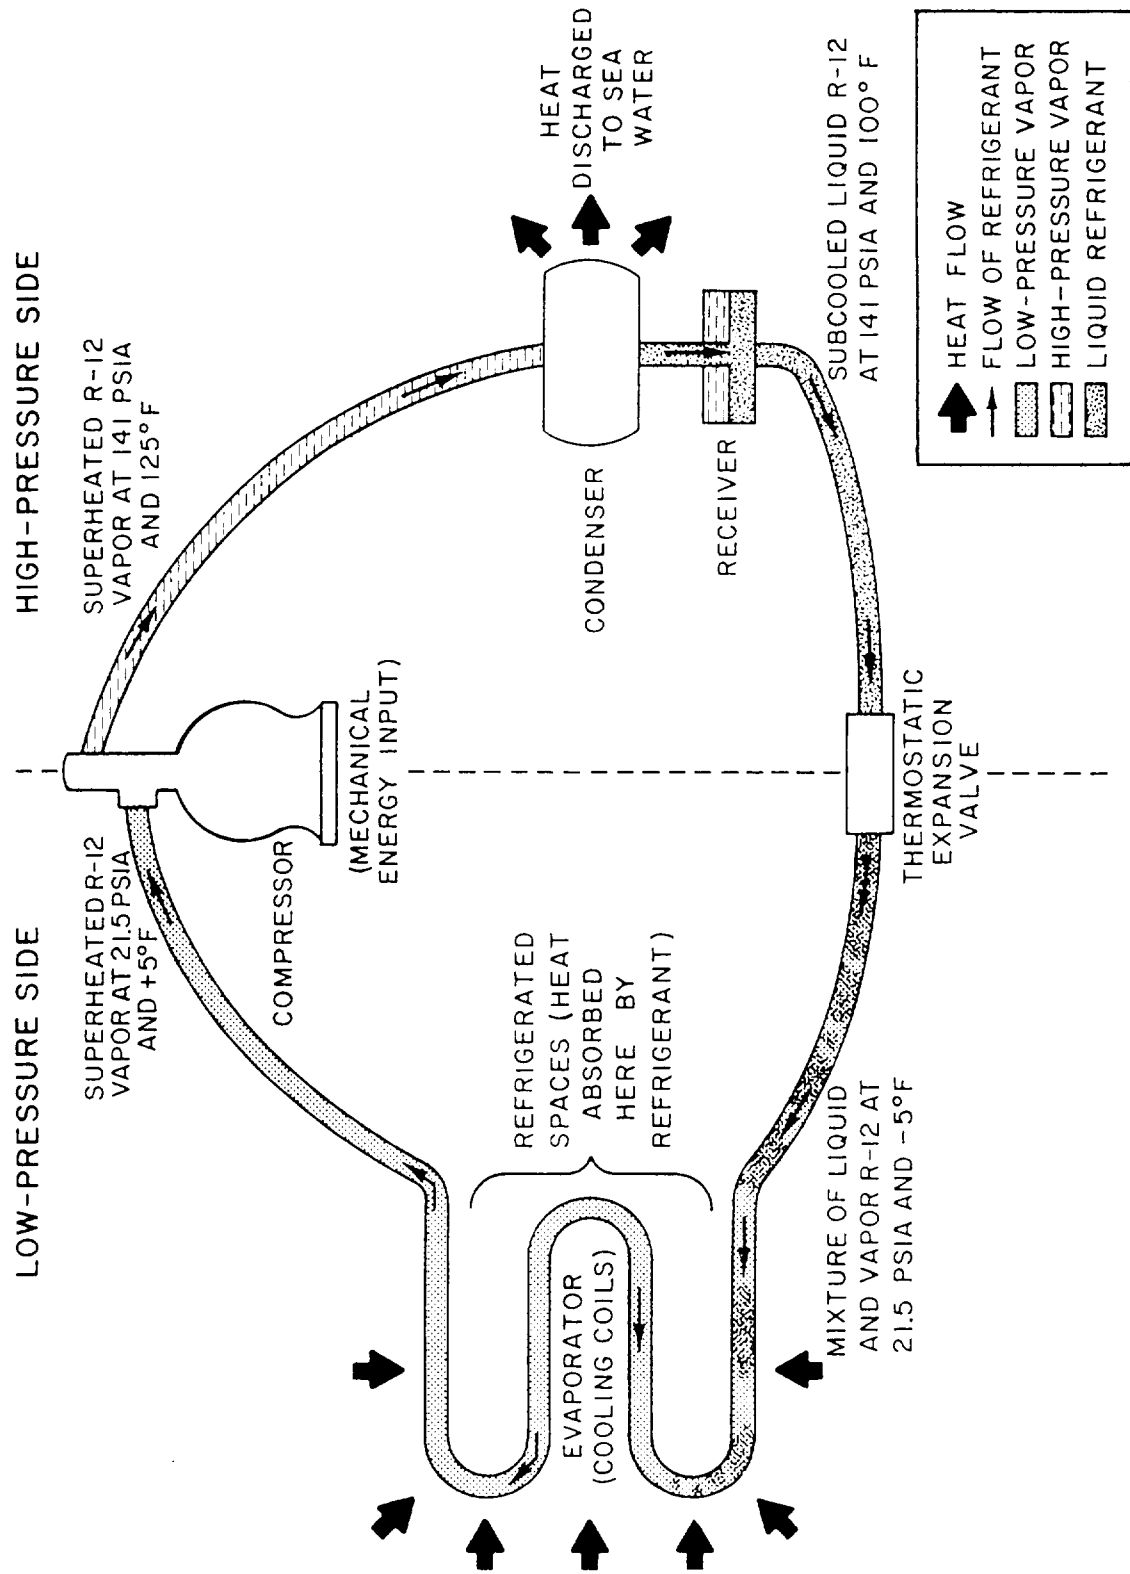

Figure 10-1.-Schematic representation of the refrigeration cycle.
Figure 10-1 shows a general idea of this type of refrigeration cycle. As you study this system, try to understand what happens to the refrigerant as it passes through each part of the cycle. In particular, you need to understand (1) why the refrigerant changes from liquid to vapor, (2) why it changes from vapor to liquid, and (3) what happens in terms of heat because of these changes of state. In this section, the refrigerant is traced through its entire cycle, beginning with the thermostatic expansion valve (TXV).